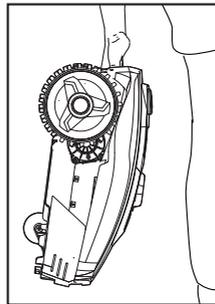

Fig. 30
- Ensure that the machine is switched off using the main power switch key (6) before lifting or carrying the machine.
- When carrying the machine, always use the carrying handle (7) and ensure that its underside faces away from your body (Fig. 30).